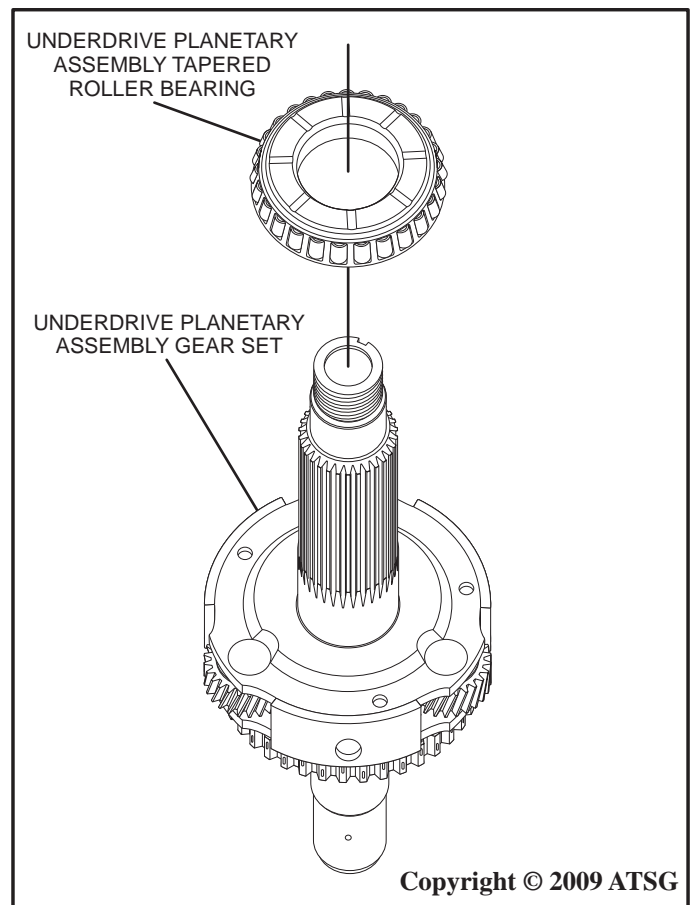

Figure 74
9. Place the underdrive planetary assembly gear set into a suitable press, then using SST 09316-00011 or equivalent, install new tapered roller bearing onto the underdrive planetary assembly gear set and press into place as shown in Figure 74.